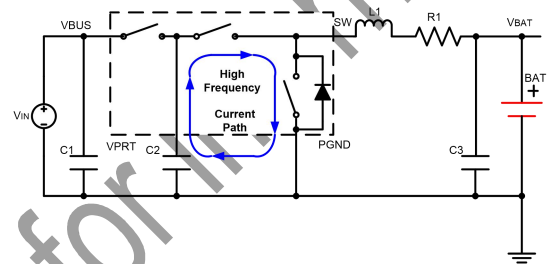

Figure 24. High Frequency Current Path
(1) To obtain optimal performance, the power input capacitors, connected from power input to PGND, should be placed as close to the IC as possible. The output inductor should be placed close to the IC and the output capacitor connected between the inductor and PGND of the IC. The intention is to minimize the current path loop area (from the SW pin through the LC filter to the PGND pin and back to IC). To prevent high frequency oscillation problem, use proper layout to minimize high frequency current path loop (See Figure 24). The sense resistor should be close to the junction of the output capacitor and inductor. The sense path must connect to the underneath of the resistor, and do not cross any high-current path.
(2) Place all decoupling capacitors close to their respective IC pins and close to PGND. Do not place components on any high-current path. All small control signals should be kept away from any high current path.
(3) The PCB should have a dedicated ground plane, which is connected to all components through via holes (two via holes per power-stage capacitors; two via holes for the IC PGND; one via per capacitor of small-signal components). Use star connection to separate different parts (high-power/low-power/small-signal) of the application design to reduce coupling noise and ground noise. Using small-size layout and independent ground connection will reduce ground noise and minimize coupling between signals.
(4) The high-current charge paths of VBUS, PMID, SW and PGND pins must be sized appropriately according to their maximum charge current in order to minimize voltage drops on their PCB routes. The PGND trace carry the